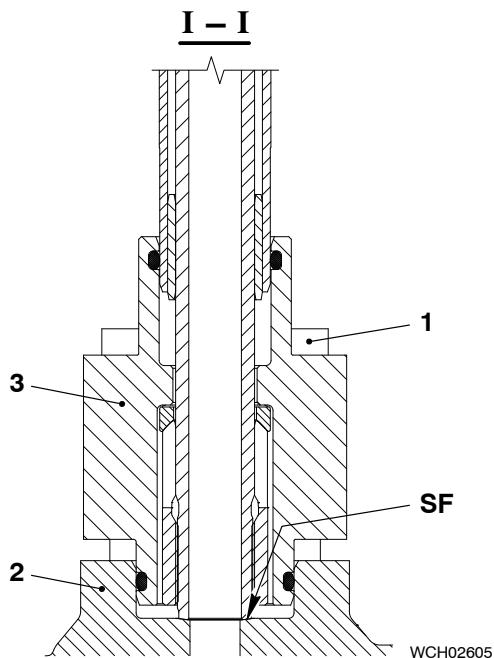

Fig. 3
- 1) Remove the four screws (1, Fig. 3) from the flange (3).
- 2) Carefully move the flange (3) away from the VCU (2).